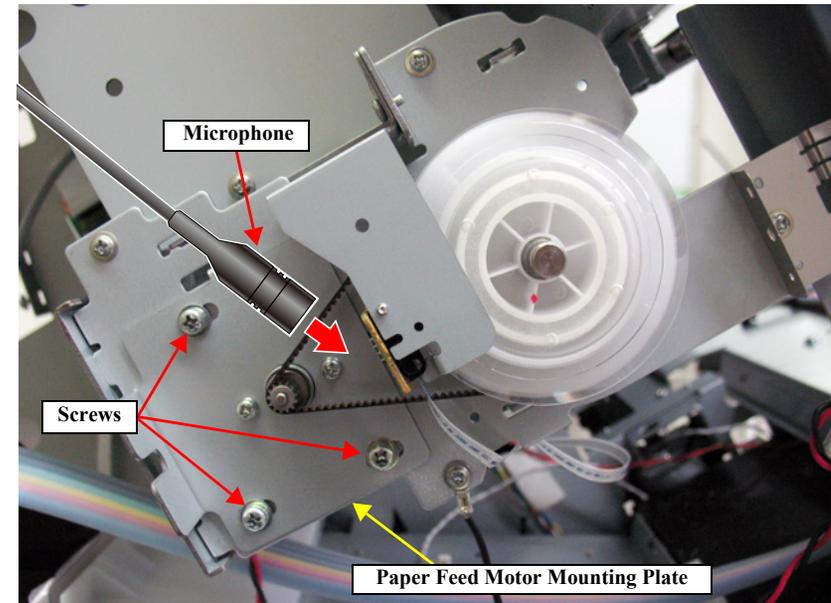

Figure 5-50. PF Timing Belt Tension Adjustment
8. Bring the microphone of the meter closer to the position shown in Figure 5-50 of the Timing Belt.
9. Press [MEASURE] on the Sonic Tension Meter U-507 and flip the Timing Belt with tweezers in the direction of the arrow in Figure 5-50.